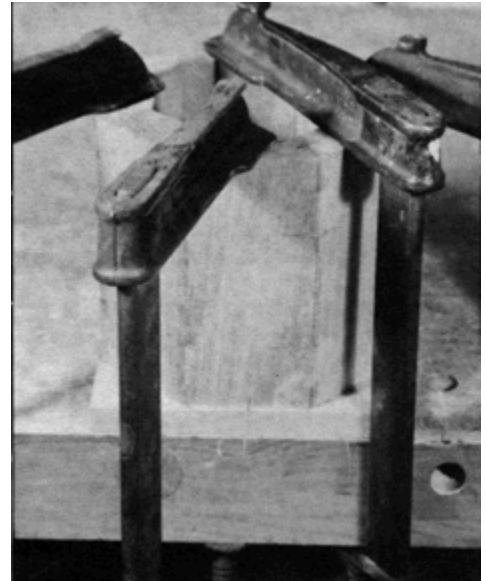

Figure 5
18. Glue and clamp it to the flat end of the blank (see **Figure 5**).